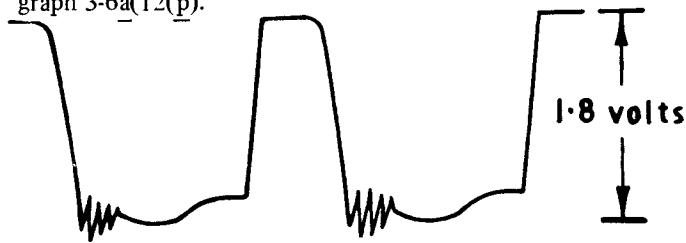

Figure 6-9b
15. Connect the Oscilloscope to the KLYSTRON INPUT INCIDENT jack and terminate the connecting lead at the oscilloscope with termination MX-554/U. Repeat 12, 13 and 14 to obtain a maximum pulse amplitude on the oscilloscope. The pulse shape should be as shown in Figure 6-9b. Re-tighten all cavity locking screws and replace the perforated cover on the RF sub-chassis. Close the sub-chassis front-access plate. Measure the power output of the FMO as described in paragraph 3-6a(12)(p).